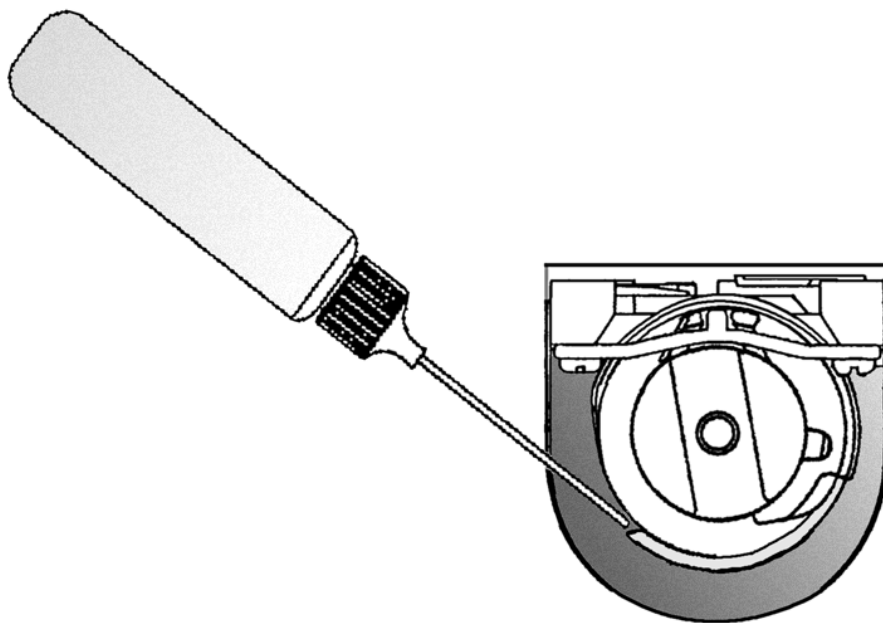

Figure 5-1
4. Oil the hook as shown in Figure 5-1. Repeat for each head.